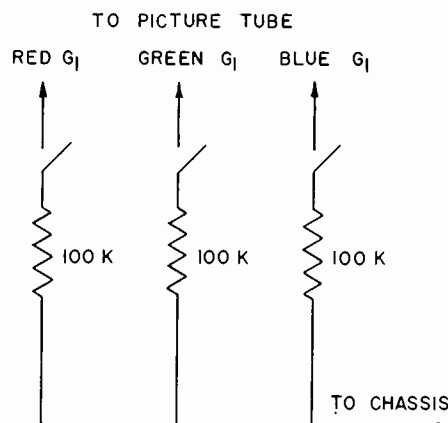

Figure 1—Simple switching circuit for control of electron guns.
**Step 2—Color Purity.** The deflection yoke should be moved back on the neck toward the convergence assembly until neck shadow appears. At this point it is necessary to have only the red gun operating. The green and blue guns can be biased off by shunting 100,000 ohms between the No. 1 grids of the picture tube and the chassis. Figure 1 shows a suitable switching circuit that can be used to control any gun.